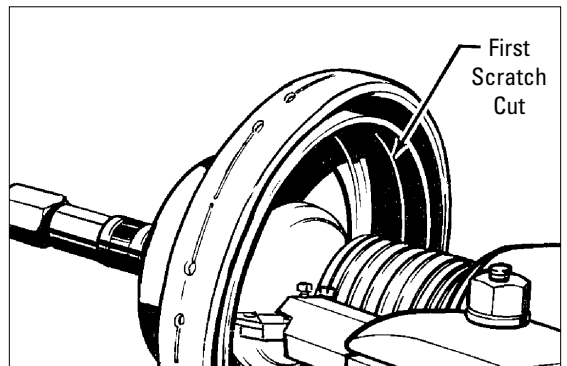

Figure 12 - First scratch cut
**8.** Advance the tool bit manually until it just contacts the drum surface momentarily and makes a scratch cut (figure 12).